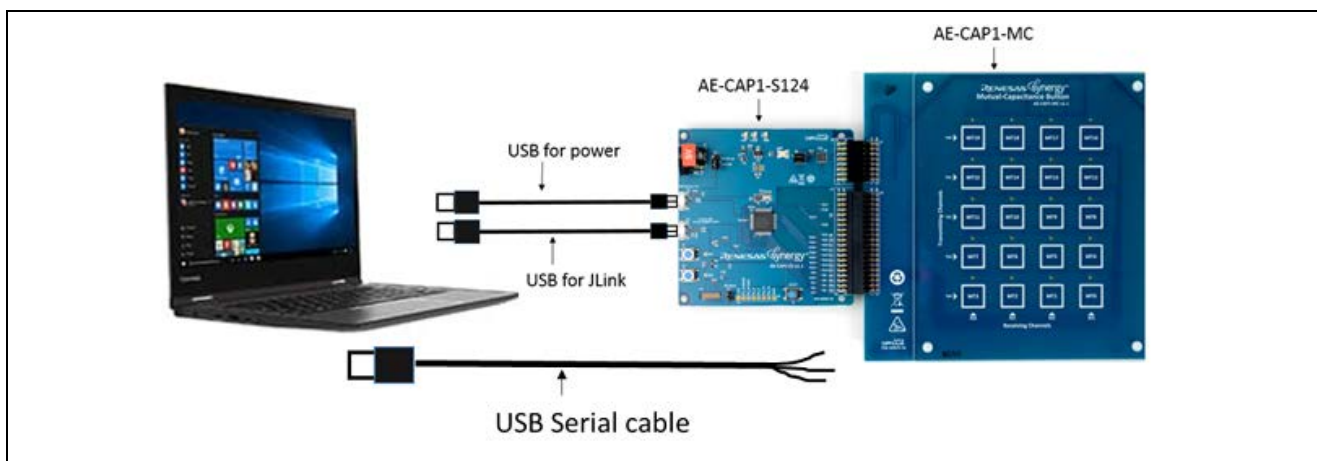
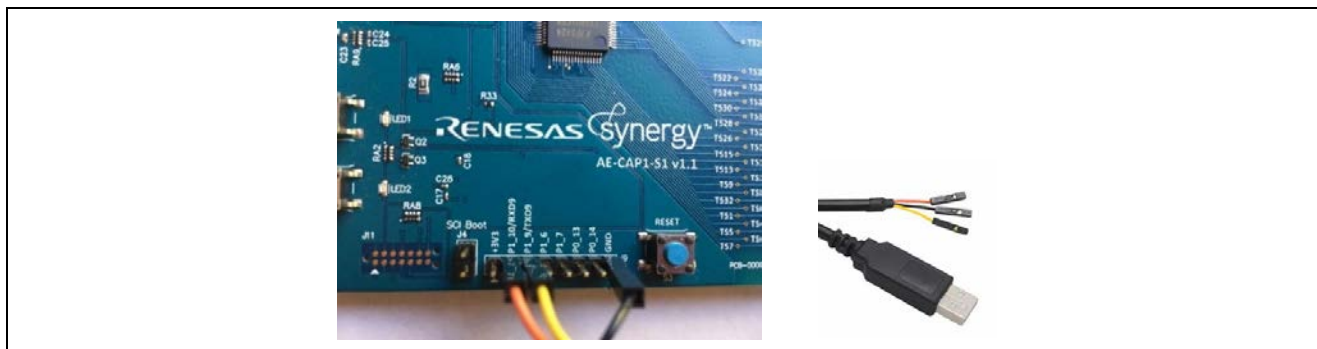

Figure 19. Project AE_CAP1_S124_MT_UART_Monitor_App Hardware Setup
Figure 20. Serial Connection
Using Figure 19 and Figure 20, bring up the AE-CAP1-S124 and AE-CAP1-MT system.
4. Connect the AE-CAP1-S124 board J9 connector to the PC via the Serial-to-USB converter (see Figure 20). **The USB Serial conversion cable is not included in the kit.**